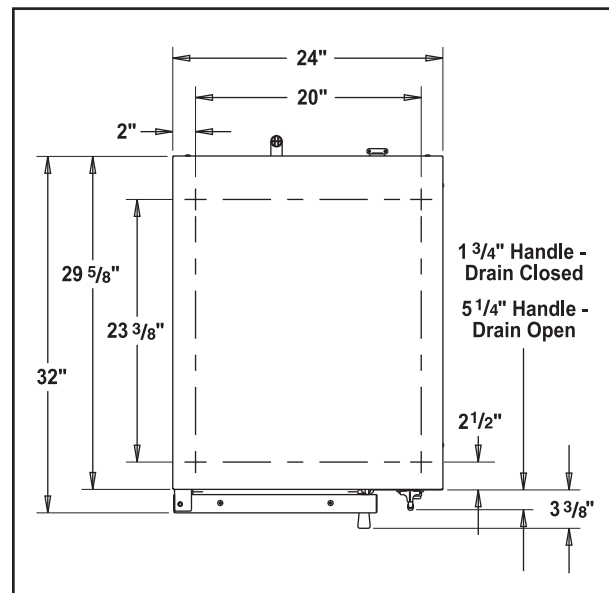

Figure 2: Anchoring Steamer
1. Place steamer in the desired location on the countertop and mark four corners. Remove the steamer and drill $\frac{1}{2}$ " holes as indicated in Figure 2.